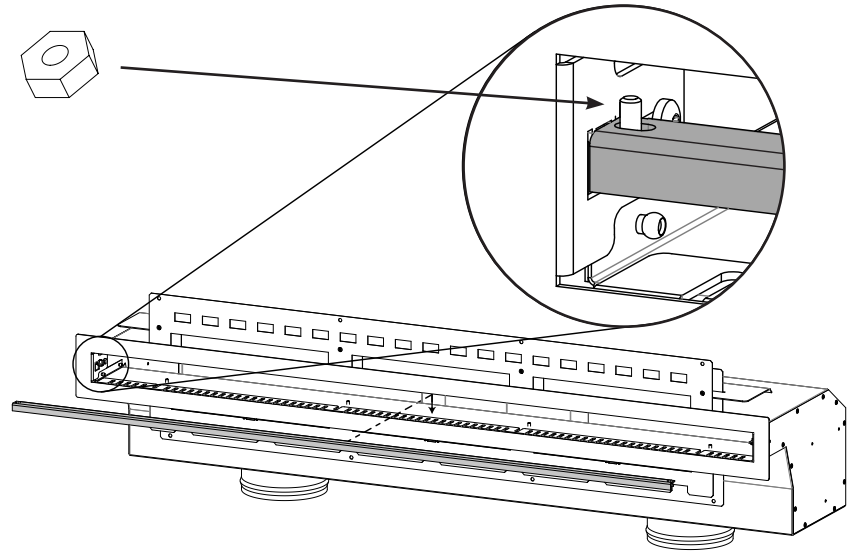

Figure 25: Bezel Louver Installation
Step 9: Install the Outlet Trim Bezel by sliding it into the outlet until the backside contacts the finished wall surface. Next, re-install the two (2) screws removed in Step 2 to secure the Outlet Trim Bezel in place.
Step 10: Install the Bezel Louver by placing it onto the two (2) upwards facing screws near each end of the outlet opening (see Figure 25). For further securement install the two (2) supplied nuts, on top of the louver, hand tight.